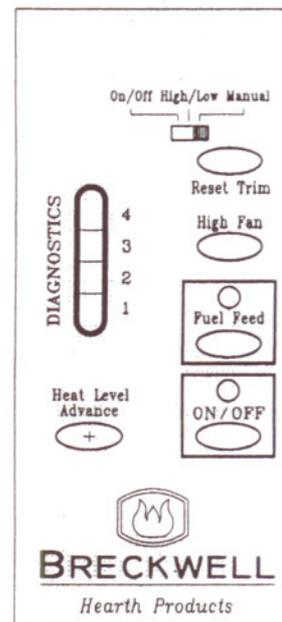

FIGURE 22
PANEL CONTROLS (See Figure 22)
- The green light located above the On/Off button (in the On/Off box) will flash during the ignition start-up period. (See figure 22)
- While the stove's auger system is feeding pellets the amber light (in the "Fuel Feed" box) will be on. (See figure 22)